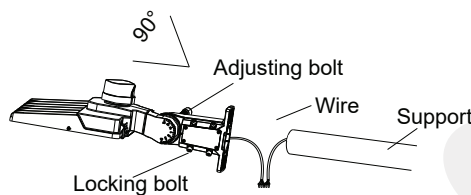

Figure 5
Step 2: Loosen the four bolts on PSP bracket, connect the wires correctly the poles. (Figure 5)
Step 3: Place the bracket into the pole and lock the four bolts. (Figure 5) Notice: Adjustable angle is 0-90° (Figure 5)